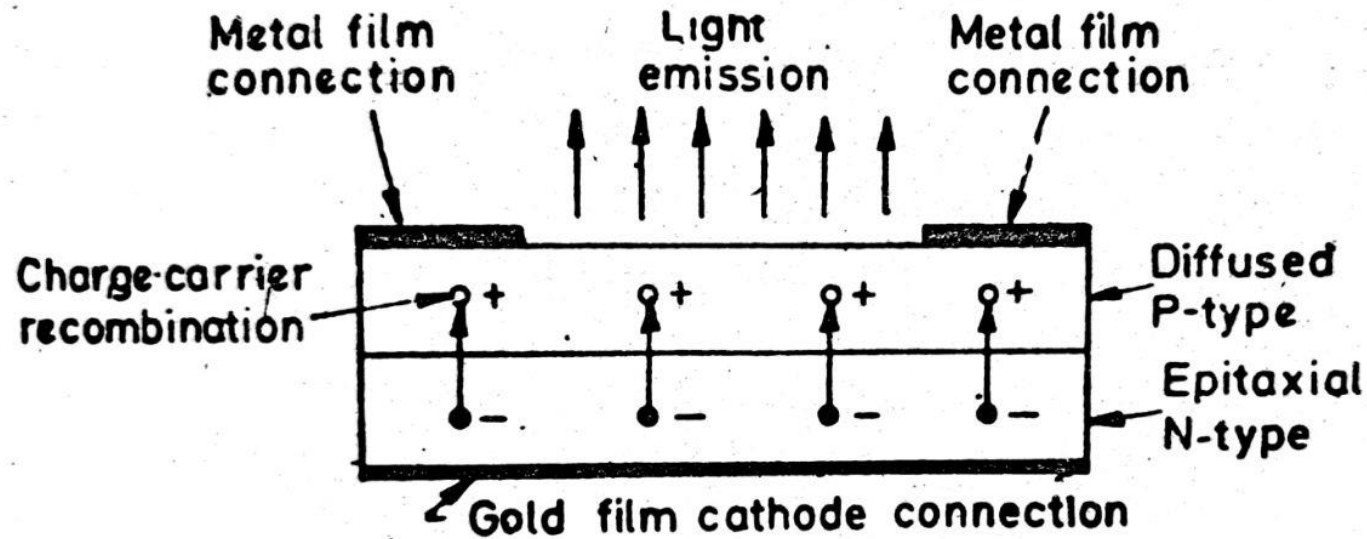

Figure 37
- Fig. 37 shows a cross-sectional view of a typical LED.